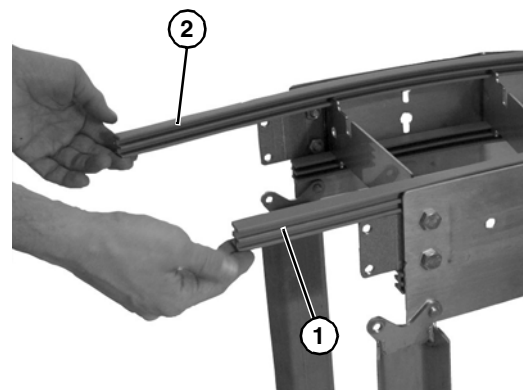

Figure 54
5. Slide off inner (**Figure 54, item 1**) and outer (**Figure 54, item 2**) belt guides.